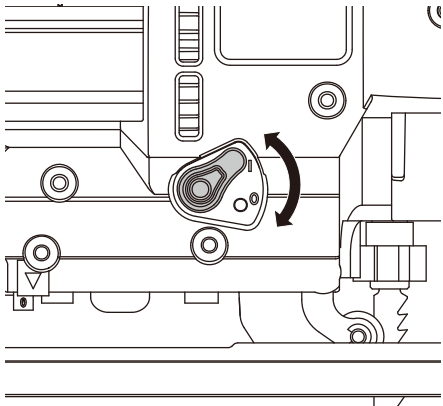

Figure 7
2. DUST-BLOWING CONTROL ADJUSTMENT (SEE FIG. 7)